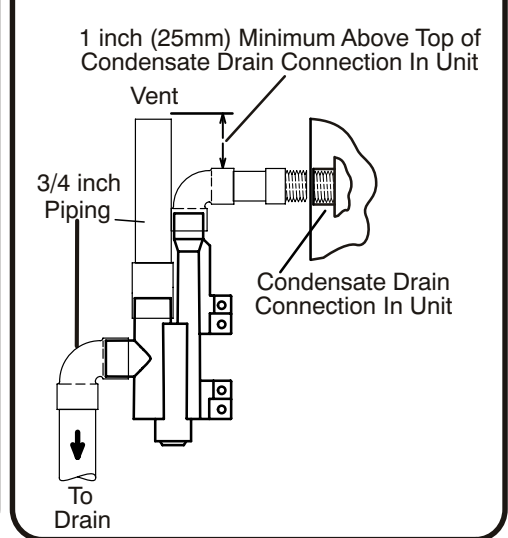

Figure 41
3. Install the cap over the clean out opening at the base of the trap. Secure with clamp. See Figure 41.
4. Install drain trap using appropriate PVC fittings, glue all joints. Glue the provided drain trap as shown in Figure 41. Route the condensate line to an open drain. *Condensate line must maintain a 1/4" downward slope from the furnace to the drain.*